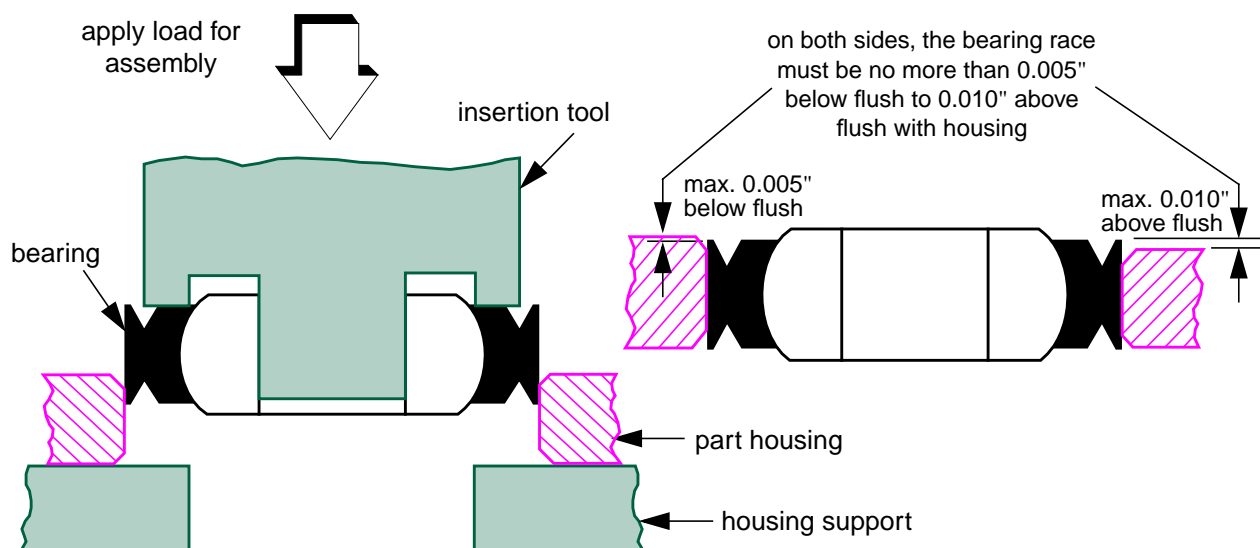

Figure 2 - Installation of MS Type Bearings
- Step 2. Support the part housing around the edge of the housing bore on the lower housing support as shown in Figure 2.
- Step 4. Ensure that both sides of the bearing race are no more than 0.005" below flush to no more than 0.010" above flush with the housing as shown in Figure 2.